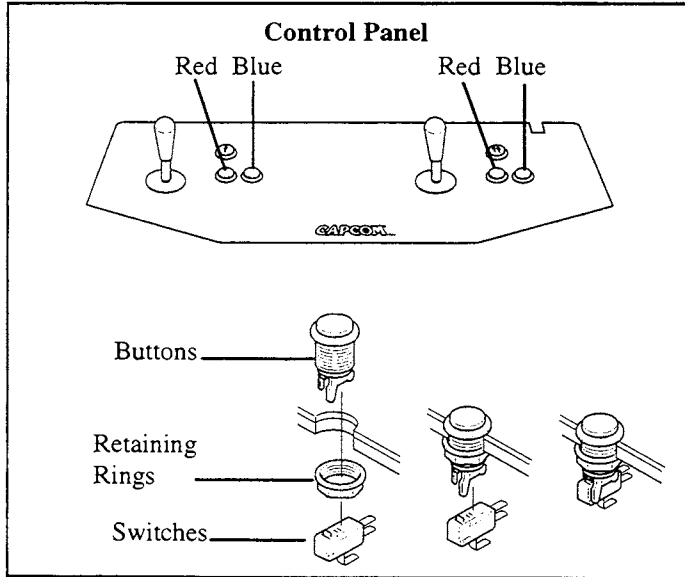

FIGURE 2
15. Install all buttons and retaining rings on the control panel as shown in Figure 2. Install two RED buttons to the immediate right of each joystick and install two BLUE buttons to the immediate right of the green ones.
17. Install the switched on the buttons as shown in Figure 2. Orient the switches so that when a button is pressed, the red contact on the switch is depressed.